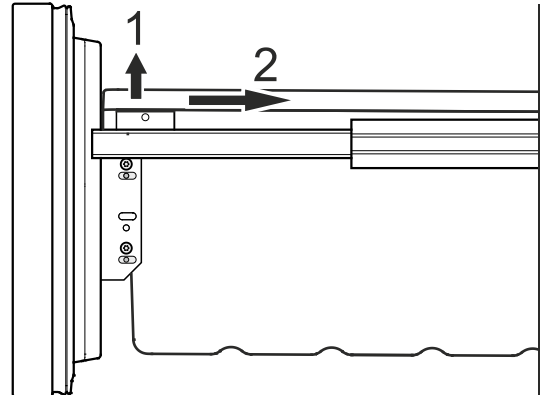

**Figure 16**
The upper drawer is divided by a partition wall for storing ice cubes in the left part of the drawer (**Figure 16**).
If you need more ice cube storage space, pull up the partition wall and refit on the adjacent rail (**Figure 16**).
- Remove glass shelves as shown in **Figure 16**.